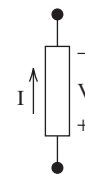

FIGURE P2.18 Image for Problem 2.18.
- 2.18 (B) True/false: The notation in Figure P2.18 conforms to passive reference.